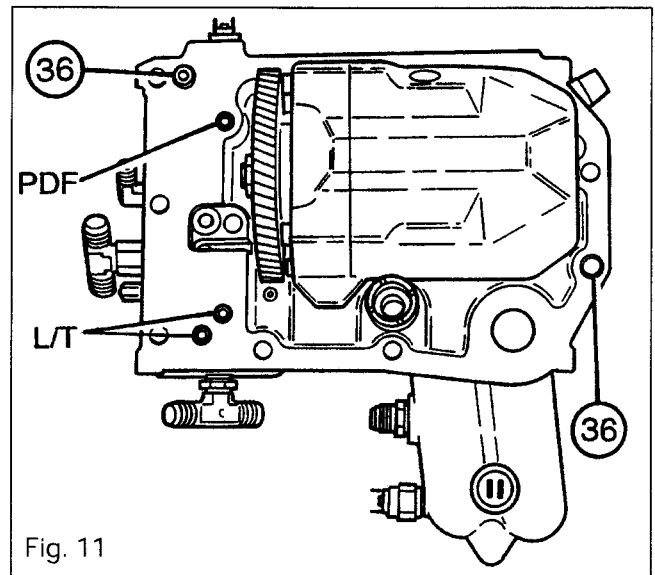

Fig. 11
10. Check that the two locating dowels **(36)** are in place. Replace the O-rings on the H/T and PTO channels (Fig. 11).